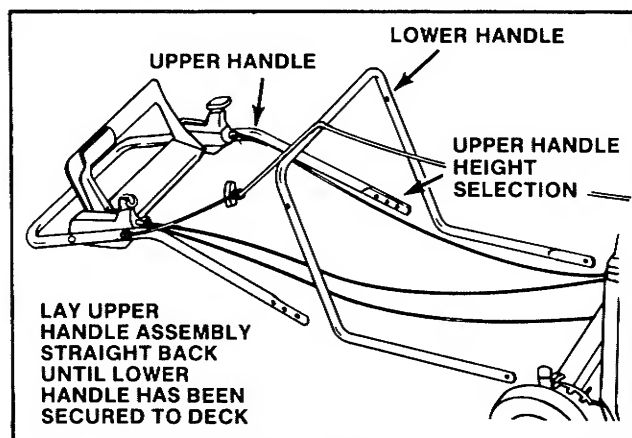
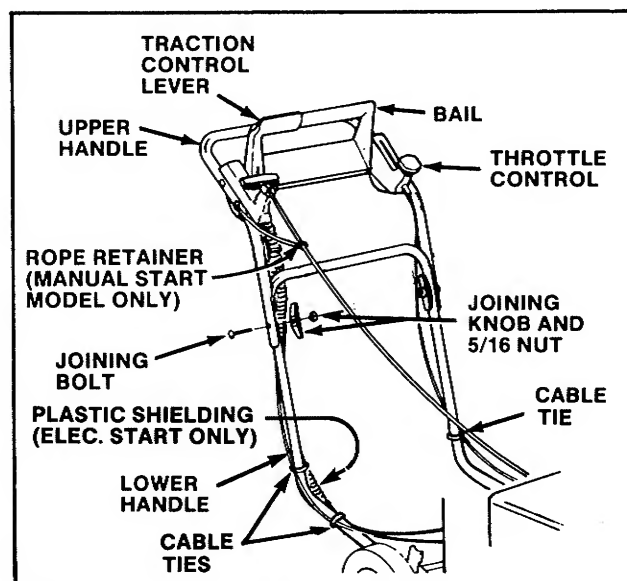

FIGURE 1
FIGURE 3
1. Lay the upper handle straight back from the mower so as not to pull or crimp the control cables. Lay the cables between the sides of the handles so they will go under the crossbar of the lower handle when the handles are put together. (See Figure 1.)
3. Take two of each of the following from the bag of parts: joining bolt, joining knob, and hex nut. Select the height desired for the upper handle (see Figure 1) and push a joining bolt through the holes on the left side of the handles. (See Figure 3).
6. Route traction control cable and engine control cable (inside plastic shielding on electric start model) down right side of handle as shown in Figure 3. Install one cable tie on handle above curved section and one below curved section.